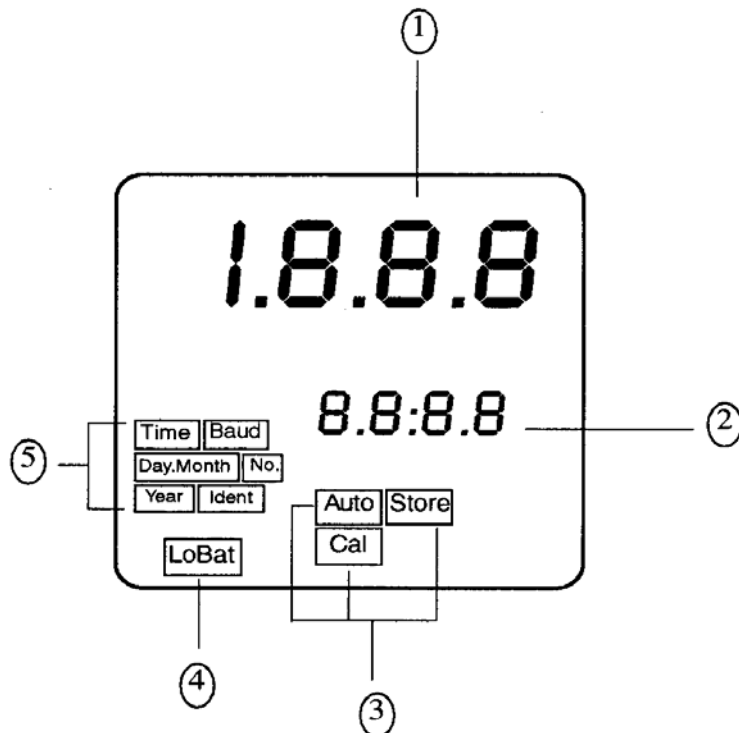

Figure 2
The **ON/OFF** key is used to turn the instrument on and off. The **CAL** key is used to enter, or exit, calibration mode. Both the **▲** and **▼** keys are used to set numerical values and to scroll through lists. The **ENTER** key stores value on the screen and/or causes the turbidity data to be output to the printer port when pressed. Figure 2 illustrates all the items that can appear on the display. The upper row of the display (1) is used for reporting the turbidity levels and to provide user guidance in the customer setting routine. The lower row of the display (2) is used to display the stored turbidity reading and to communicate error messages and user guidance. The display has several status indicators (3) which distinguish the operation of the instrument. In addition, the "LoBat" block (4) flashes when the batteries need to be replaced. Finally, several indicators (5) provide guidance when the customer setting routine is being used and when the calibration routine is being used.